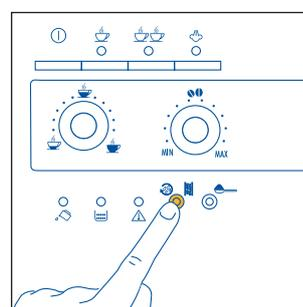

Fig. 14
- 1) If, when the machine has just been turned on, a short cup of coffee is required (less than 60cc), use the hot rinsing water to pre-heat the cups (see the suggestion in par. 4.3, point 5). If, on the other hand, more than 2/3 minutes have elapsed since the last coffee was made, before preparing another coffee the infuser must be pre-heated, pressing the  button (Fig. 14).